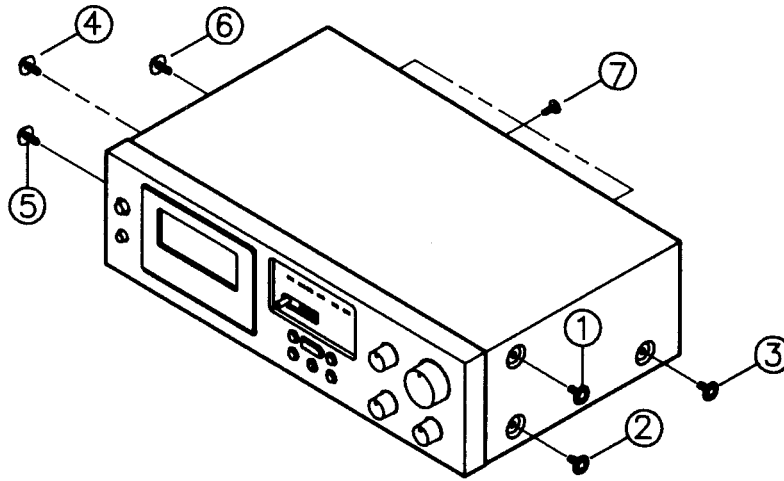

Fig. 1.
- a. ①-⑥ Machine screw M 4.0x8.0 (See Fig. 1.)
- b. ⑦ Tapping screw M 3.0x8.0 (See Fig. 1.)